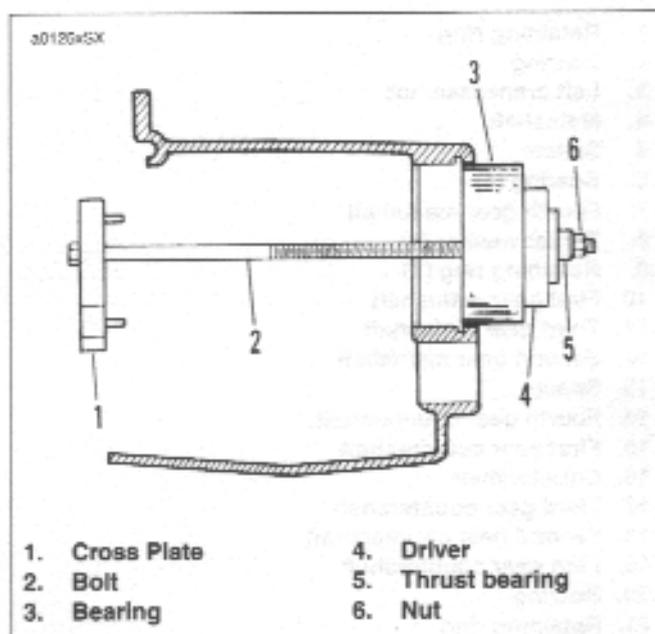

Figure 6-71. Installing Mainshaft Ball Bearing
2. See Figure 6-71. Insert bolt (2) through cross plate (1), new bearing (3), driver (4) and thrust bearing (5). Thread nut (6) on end of bolt. Tighten nut carefully until bearing is started in bore squarely. Tighten nut (6) until bearing is seated against shoulder in bore.